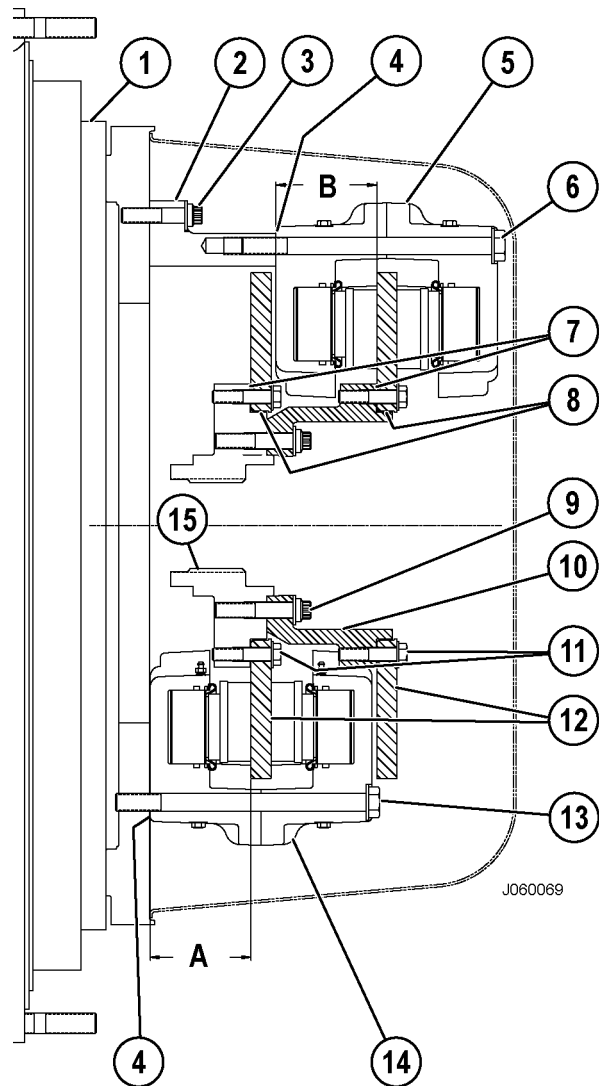

FIGURE 6-2. REAR DISC BRAKE
8. Support outer disc (12) and remove disc mount cap screws (11) and washers. Slide disc from outboard adapter (10). Shims (7) will be found between disc and adapter. Remove bushing (8). Mark all shims so they will be installed in the same location during assembly.
9. Use small diameter wire and wrap it around the brake lining and inner caliper half (5).
10. Remove cap screws and flat washers (9). Remove adapter (10). Remove inner caliper half from adapter (2).
11. Remove the two center caliper mount cap screws (13) from inboard caliper (14) and install two 7/8-9 NC X 14 in. studs.
12. Slowly remove the four remaining caliper mount cap screws. The brake lining is under spring pressure, and it will extend out as the cap screws are loosened. Do not let the brake lining pull away from the caliper housing (14, Figure 6-2).
14. Support inner disc (12) and remove cap screws and flat washers (11). Remove inboard disc (12). Remove shims (7) and bushing (8) between disc and adapter.
15. Use small diameter wire and wrap it around the brake lining and inner caliper half (14).
16. Remove inner half of caliper (14). A brake bleeder may have to be removed temporarily to obtain clearance around adapter (15). Cover or plug hole in caliper to prevent dirt contamination inside caliper.
17. Remove cap screws and flat washers (3) and remove adapter (2).